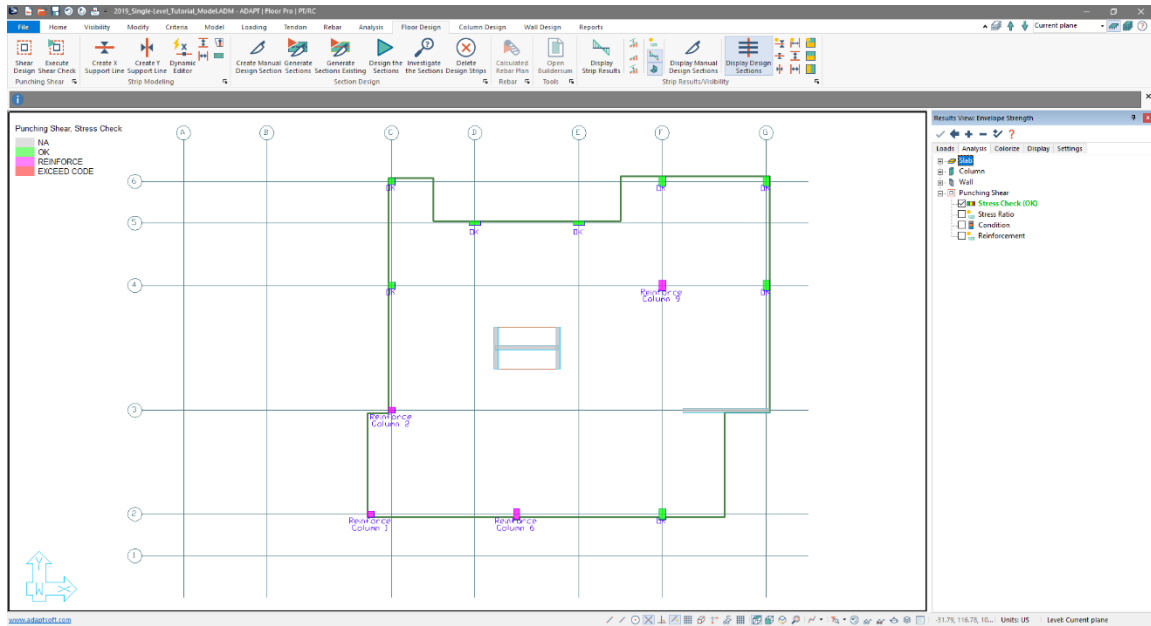

Figure 8-75
- The user should now see a screen similar to **FIGURE 8-75**. Note that the program will show if the column is *OK* (no need for reinforcement), *Reinforce* (two-way shear reinforcement needs to be added), *Exceeds Code* (column does not pass code checks even with added reinforcement), and *NA* (column was not checked for shear).